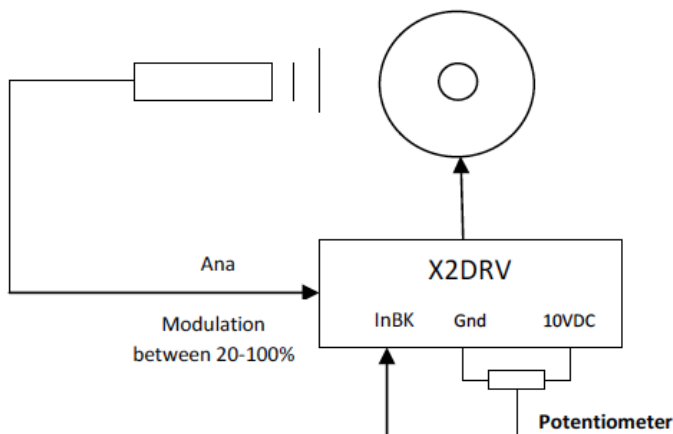

Figure 5: Typical Open Loop application with diameter compensation
8. (Optional): To get an Open Loop control use the external interface power supply (10V DC) as shown in Figure 2 to supply a potentiometer or others as described in Figure 5.